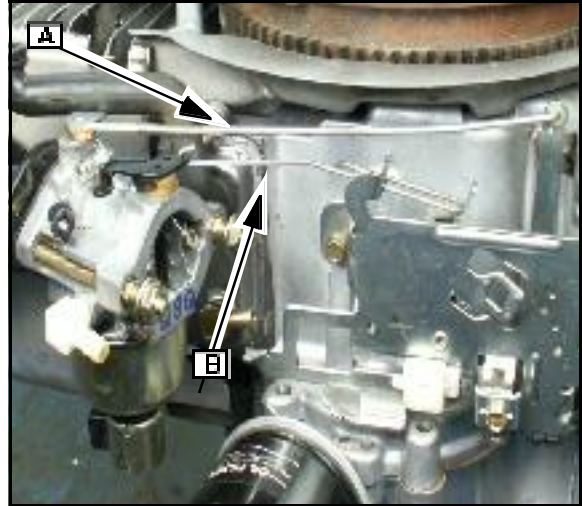

Fig. 52
7. Install governor link with spring (A) and connect choke arm (B) Fig. 52) as shown.